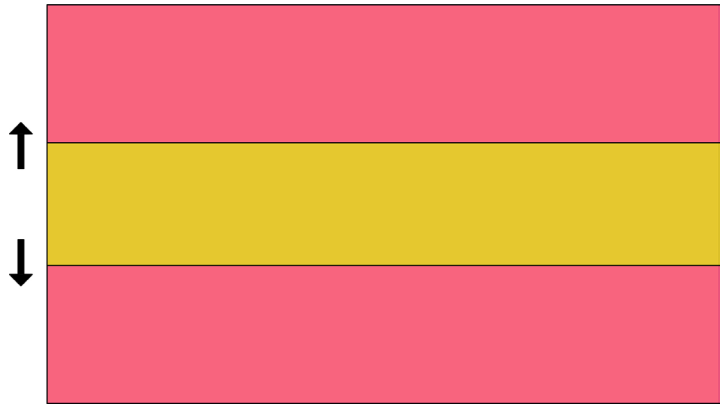

Figure 17
18. Stitch the strips together lengthwise. Press the seam allowances as indicated by the arrows in the diagram. (Figure 17)